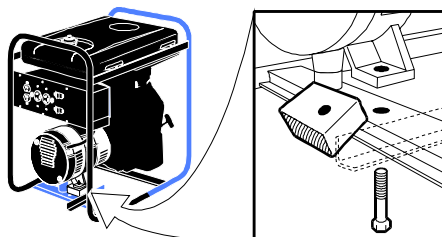

Figure 1
- **(CTE300, T525, BSV800)** Remove shipping block from under the generator head by unscrewing the bolt and remove the wood block. It is very important that this is removed before starting your generator. See Figure 1.